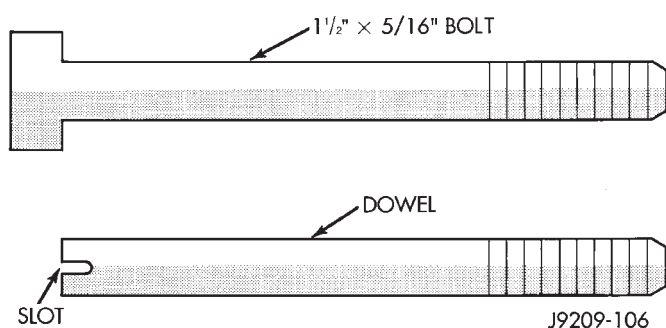

Fig. 34 Fabrication of Alignment Dowels
- (1) Fabricate 4 alignment dowels from 1 1/2 x 5/16 inch bolts. Cut the head off the bolts and cut a slot into the top of the dowel. This will allow easier installation and removal with a screwdriver (Fig. 34).